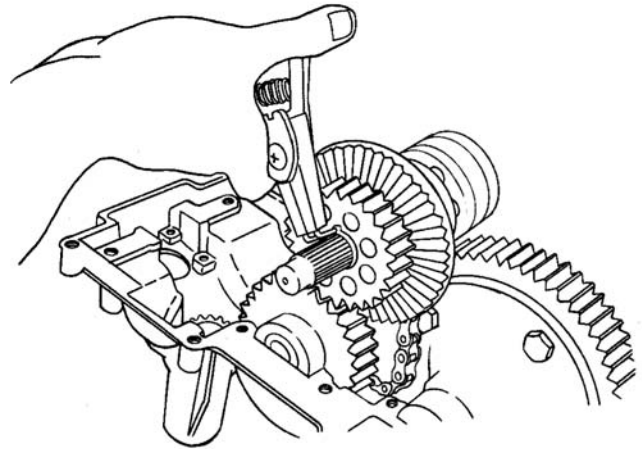

Figure 5-38. Removal of High Gear Snap Ring
12. Remove the high gear snap ring. See Figure 5-38.